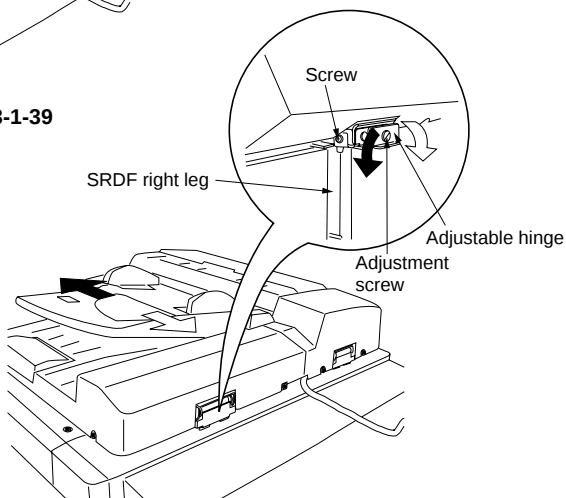

Figure 3-1-40
- Adjustment on a machine equipped with an adjustable hinge (Figure 3-1-40):